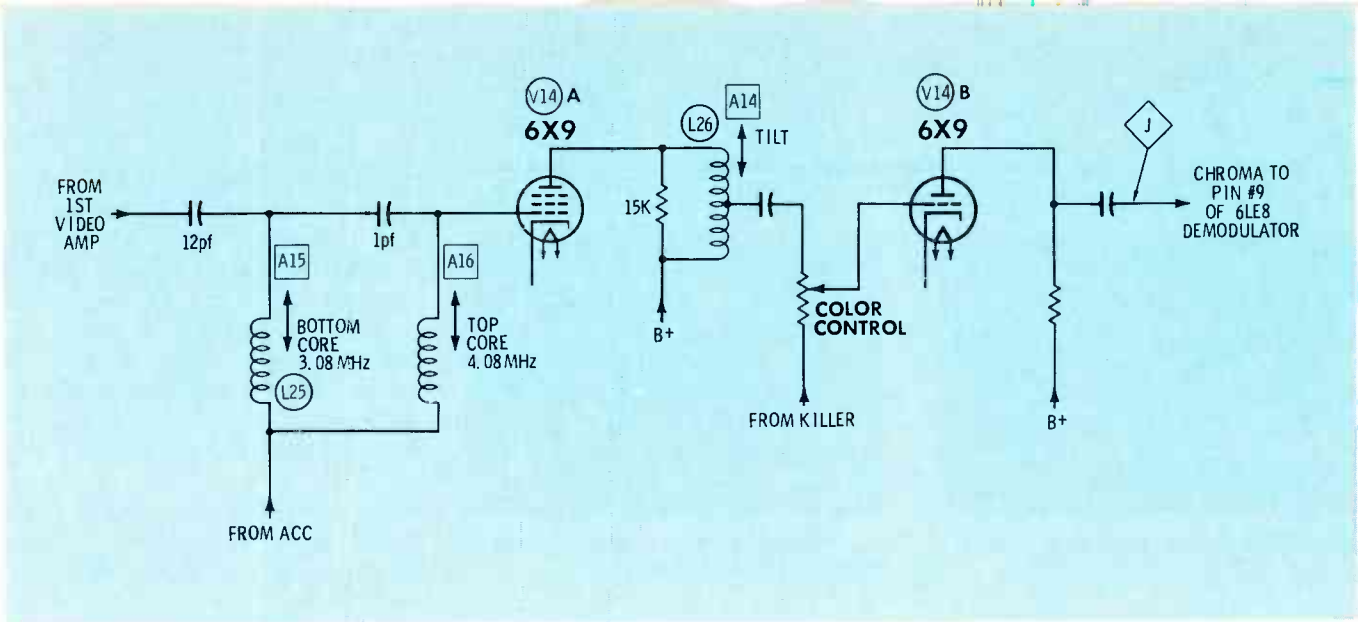
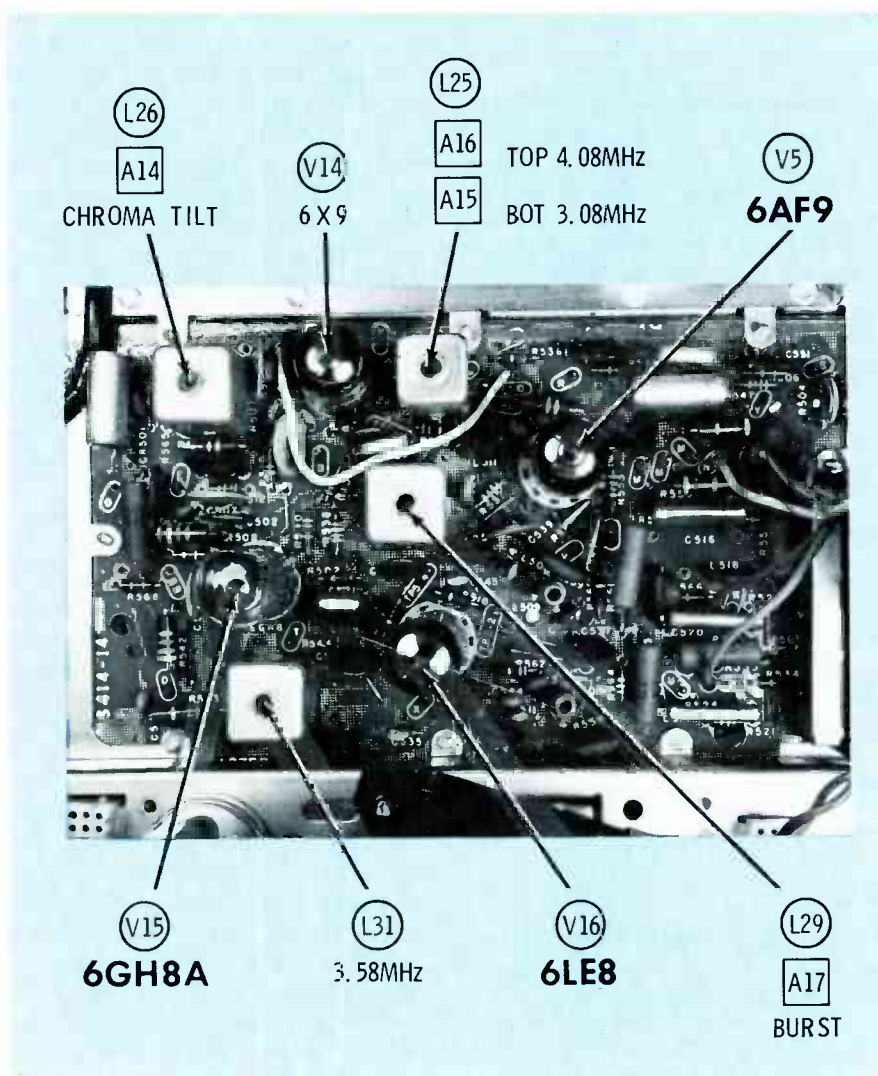

Fig. 13A A simplified schematic of the chroma circuit of the Admiral 6H10 chassis.
Fig. 13B This picture shows the location of the tubes and alignment adjustments on the chroma board.
3. A simplified schematic of the chroma channel is shown in Fig. 13A, and a picture of the chroma board is shown in Fig. 13B. Adjust the top core of L25 (A16) for maximum height of the curve at 4.08 MHz, and the bottom core (A15) for maximum height at 3.08 MHz. Adjust the core of L26 (A14) to make the curve as flat and level as possible. If the tilt is more than about 25%, it may be necessary to touch up the IF alignment before trying the chroma adjustments a second time. Then adjust L9 (A11) for minimum response at 4.5 MHz. Final adjustment of this trap should be made on a station, as detailed later.